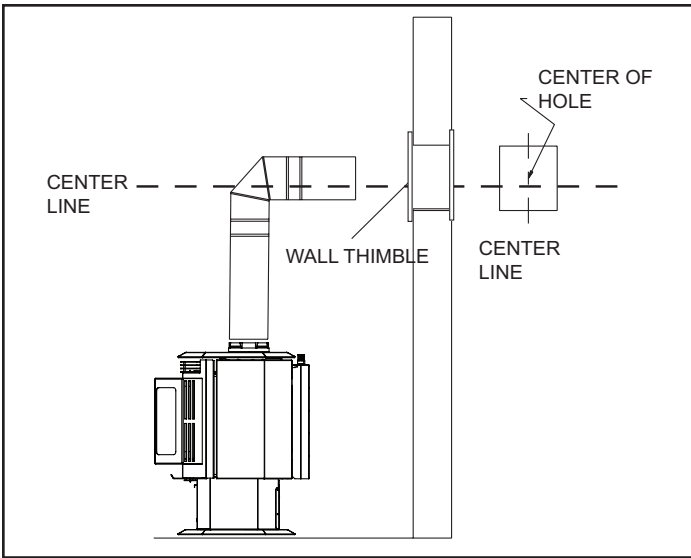

Figure 5.5
**Step 3** - For installations using a support box/wall thimble (check pipe manufacturer's instructions), mark the wall for a 10 in. x 10 in. (254mm x 254mm) square hole. The center of the square hole should line up with the center line of the horizontal pipe, as shown in **Figure 5.5**. Cut and frame the hole in the exterior wall where the vent will be terminated. If the wall being penetrated is constructed of noncombustible material, i.e. masonry block or concrete, a 7 in. (178mm) diameter hole is acceptable.